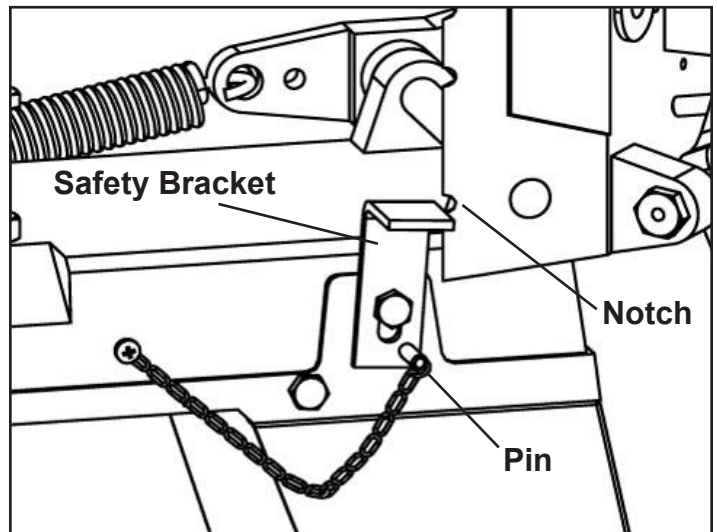

FIGURE 23
2. Lock the safety bracket in place with the supplied pin (on front of saw) to keep the saw head from falling. SEE Figure 23.